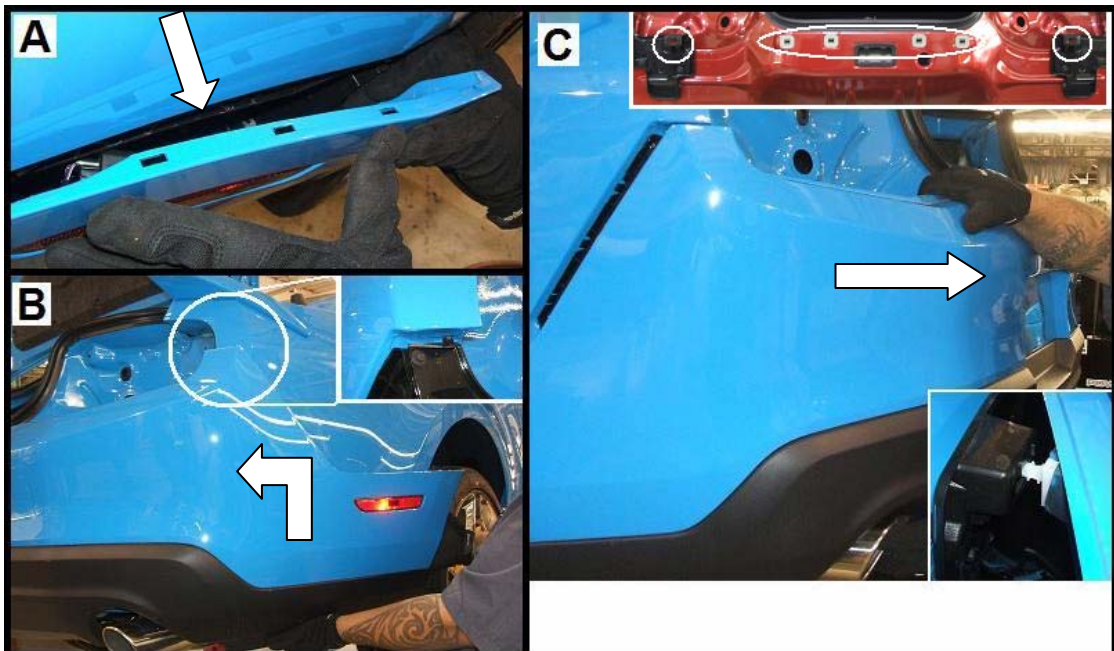
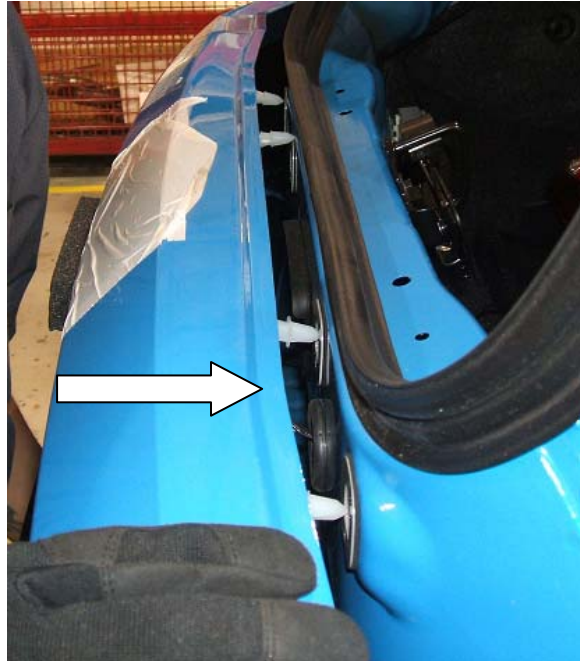

Figure 8
Figure 13
- Pull the rear fascia rearward to disengage the six (6) retainers. Four are located at the center section and two are at each rear corner bracket. See insets. Refer to Figure 8.
26. Align the four (4) rear fascia center retainers and the two (2) end retainers to the plastic inserts and press the rear fascia forward to fully engage the six (6) retainers. Refer back to Figures 8-C inset and Figure 13.
27. Press the LH and RH upper corner tabs onto the retainer hooks of the rear corner brackets. Refer back to Figure 8-B.
28. Press the rear bumper sides into the side retainers. Refer back to Figure 8-A.